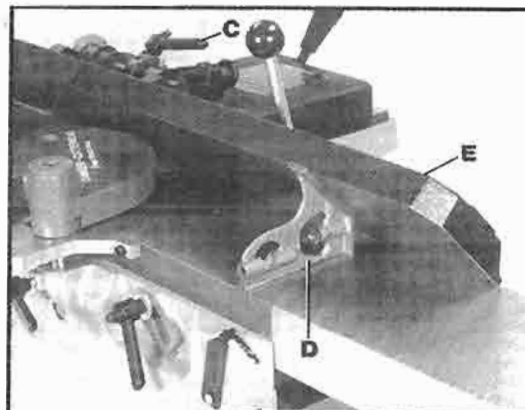

Fig. 22
To check the accuracy of the positive stops at 45 degree inward angle of tilt, position the fence (E) Fig. 22, inward as far as possible. Use a combination square (D), and check to see if the fence is tilted inward accurately at 45 degrees. If an adjustment is necessary, proceed as follows:
1. Loosen lockhandle (C) Fig. 22.